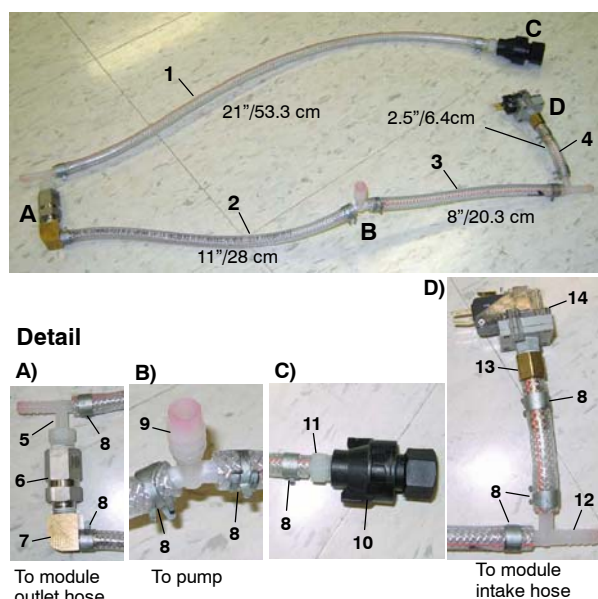

Fig. 26
7. Cut the 4 ft braided hose [p/n 578227000] into the specified hose lengths as described (ref. 1, 2, 3 & 4) then assemble the following parts as shown (Figure 26). Use thread sealer tape on all fittings.
### *ec-H2O* Solution Hose Assembly Parts List (Figure 26)